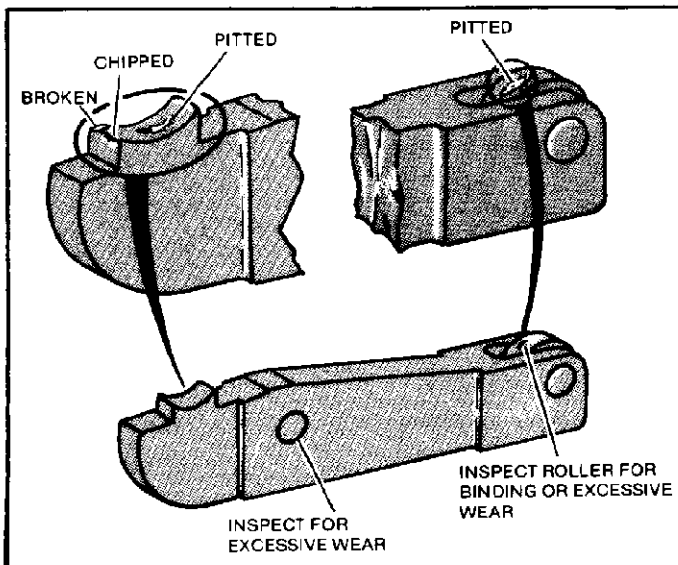

Figure 5
- (d) Examples of possible worn or damaged jaw or cam roller surfaces are shown in Figure 5. If jaws are defective, refer to Figure 8 for customer replacement part numbers.